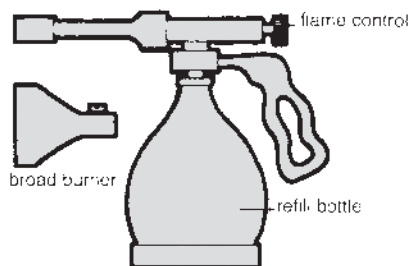

Fig. 1.37 Bottle-type gas torch
- **Bottle-type torch** (Fig. 1.37)